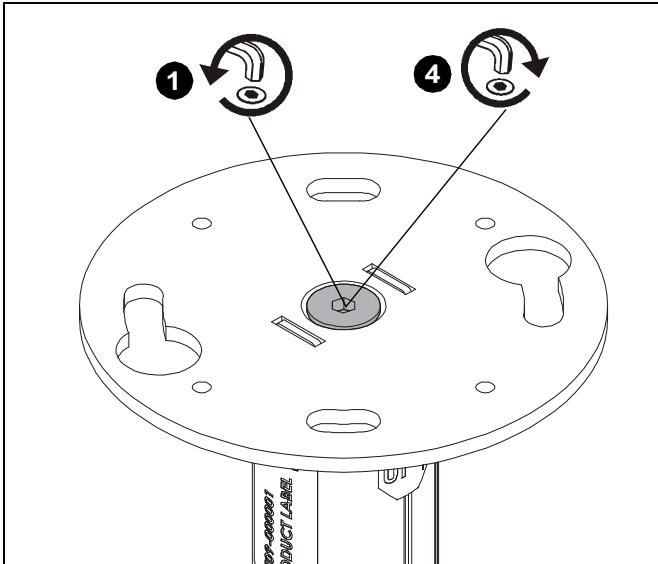

Figure 1
1. Loosen bolt on top of KITE Series mount (E) by turning bolt 1-2 full rotations. (See Figure 1)
4. Tighten bolt on top of KITE Series mount (E). (See Figure 1)